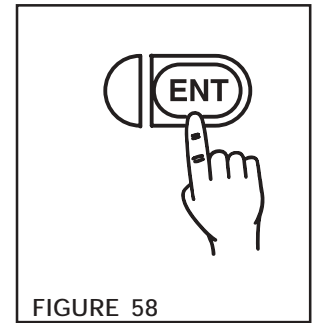

FIGURE 58
2. Press the **ENTER** Key to store this value (See Figure 58).